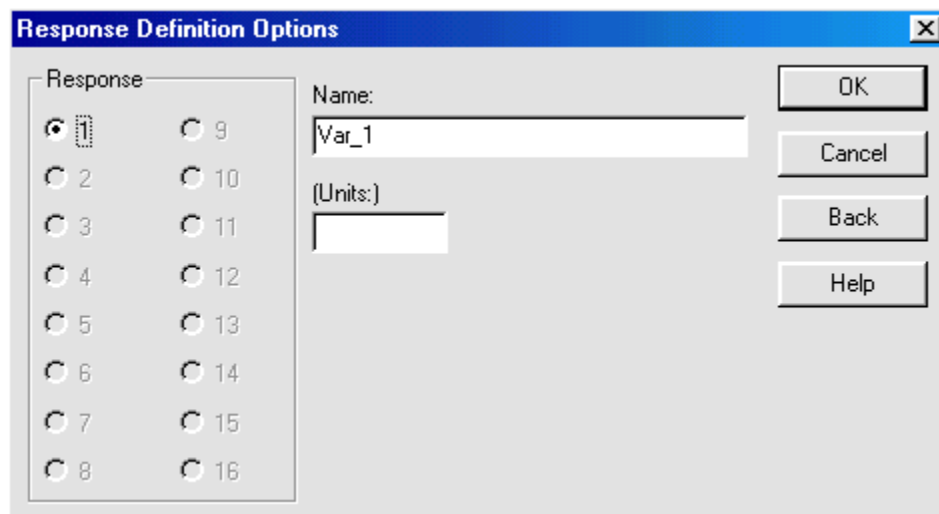

Figure 5-3. Response Definition Options Dialog Box
5. Click OK to display the Response Definition Options dialog box shown in Figure 5-3.